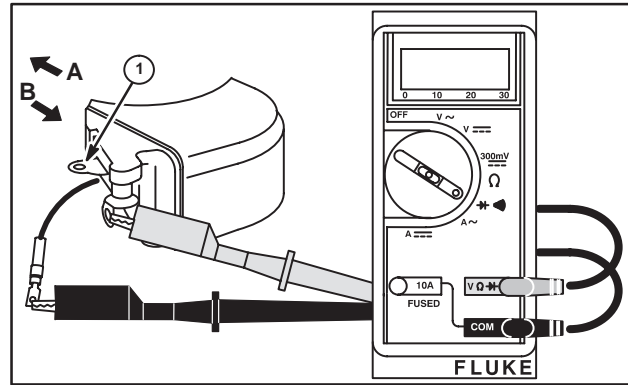
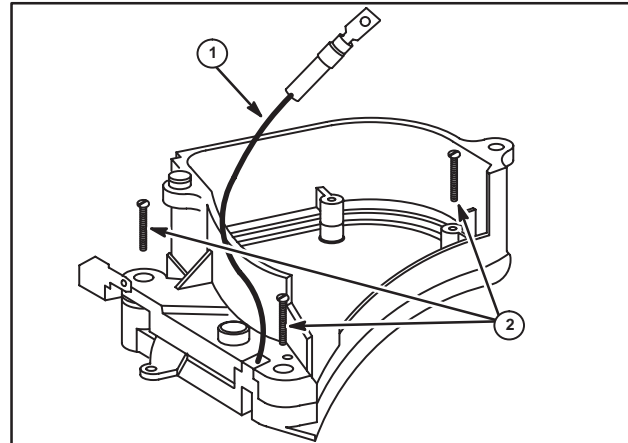

Fig. 12
Fig. 13
4. Test switch as shown in Fig. 12. With switch lever in “RUN” (A) or “STOP” (brake) (B) position, there should be NO continuity.
5. Place lever (1) in “START” position. Meter should indicate a continuity reading.
6. If there is NO continuity in “START” position, the wire and brush assembly (1) may be serviced as shown in Figs. 13 and 14, by removing 3 screws (2) and the switch cover assembly.